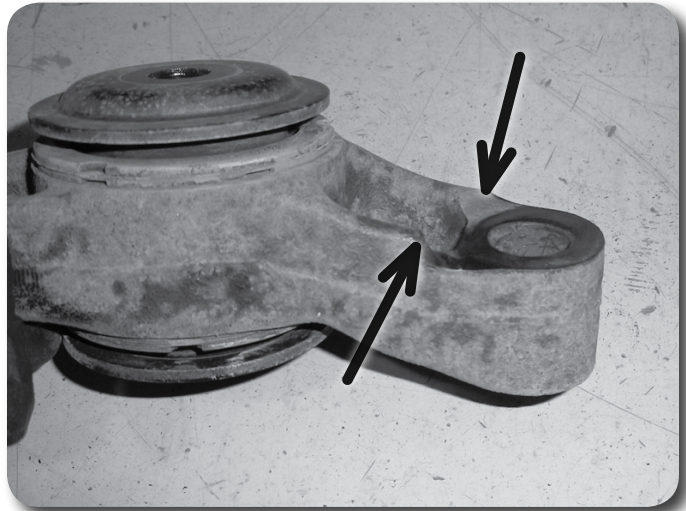

Figure 30
37. Locate the factory rear differential mount that was removed earlier. Locate the bottom outer mount surface and the cast ribs that extend close to the mounting hole. These ribs need to be ground down flush to the mounting surface back into the mount body about 1/4" to provided clearance with the new differential mount **Figure 30**. This can easily be done with a standard angle grinder.